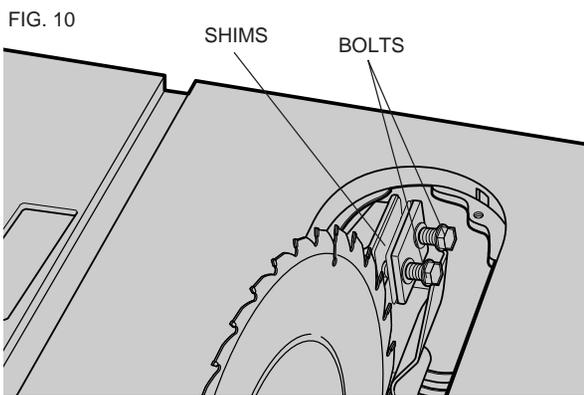

FIG. 10
2. Loosen, but do not remove the two bolts shown in Figure 10.